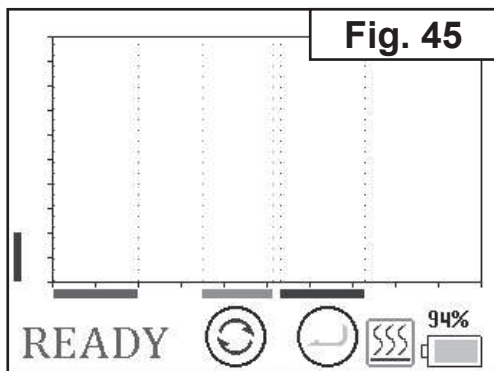

Fig. 45
6. After checking background signal the EVD will pass to an «READY» mode (Fig. 45).
In case of long-term usage sample heater contamination may occur. It leads to false alarms. In such cases recommended periodically update background signal: In «READY» mode tap  (Fig.45). To update the background signal tap «SETTING» (Fig. 46). Detector will update the background signal and returns to the «READY» mode.